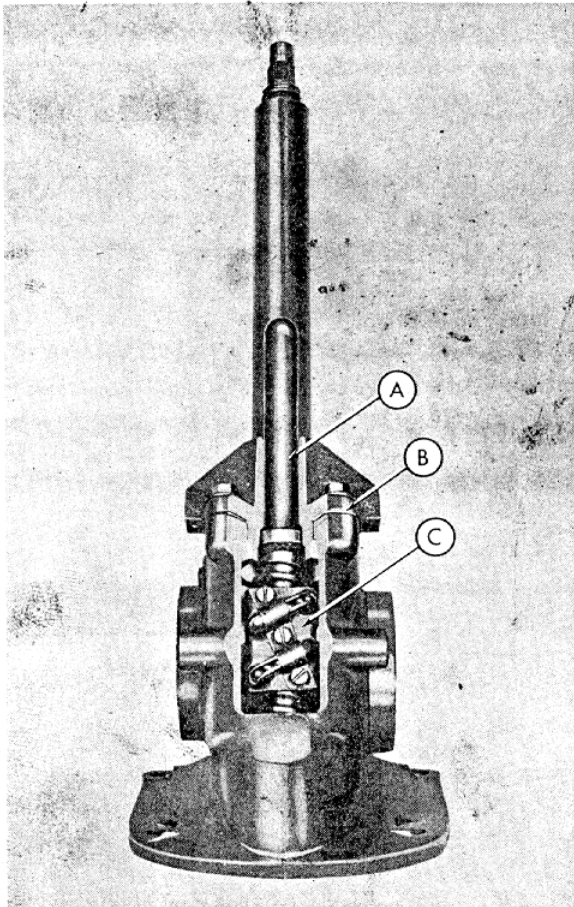

Fig. 4
- Step 2—Install the shaft and ball nut assembly with the nut (C-Figure 4) positioned at approximately the center of the worm.
- Step 4—Position the shims (B-Figure 4) and install the steering tube and cover assembly.
- Step 7—Adjust the wormshaft (A-Figure 4) end play (bearing adjustment).
- a. Adjust the bearings to a slight pre-load by removing shims (B-Figure 4) from the top face of the gear housing.